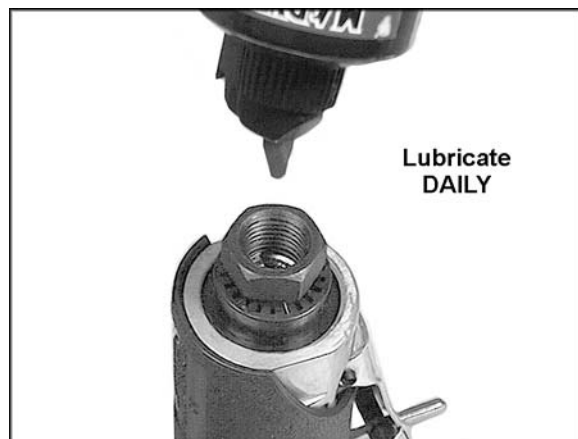

Figure 3
2. Place four or five drops of air tool oil* into the air inlet (Figure 3).